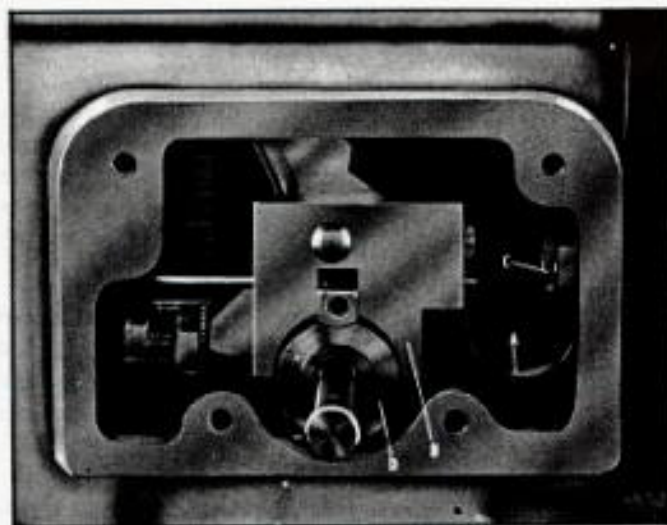

Fig. 22
2. Move the flat spring (A) Fig. 22, up or down until there is equal clearance between the dog plate (B) and the cam (D). The spring is moved up or down by loosening screw (C) which holds one end of the spring against the headstock body casting.